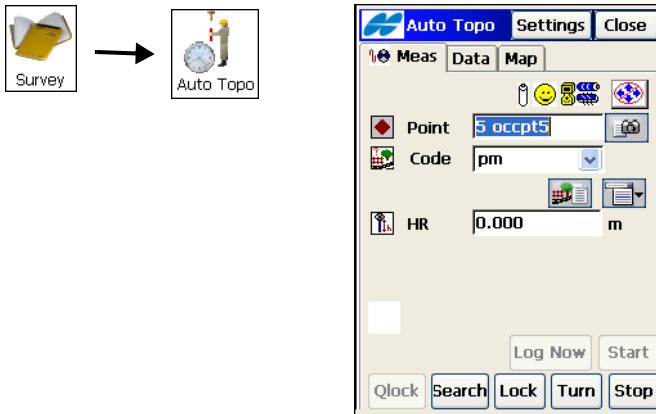

Figure 8-53. Auto Topo
2. Enter the *Start* and *End* points names and codes (Figure 8-53 on page 8-49). To measure the point, tap the **Meas** button in the corresponding field.
2. Enter the point name, code and the height of the rod (Figure 8-53 on page 8-49).